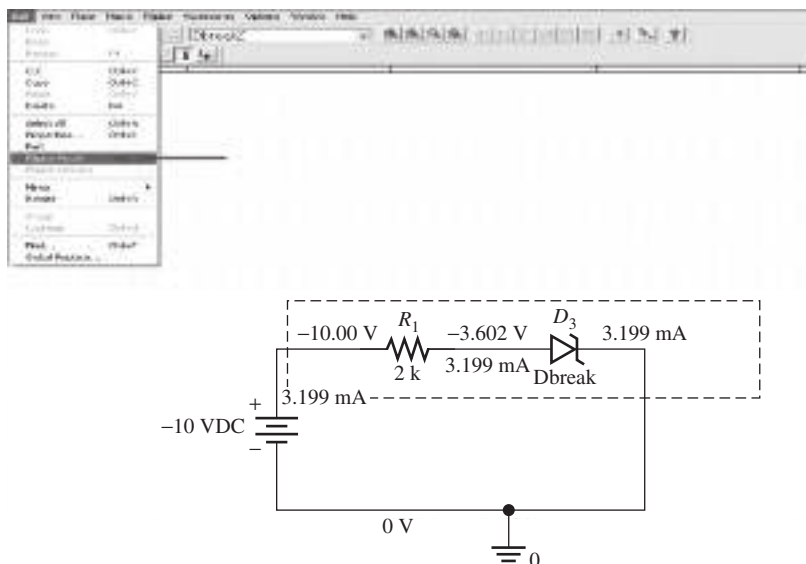

FIGURE 8.89 Enter the PSpice model editor for the Zener diode.
4. Click on the Zener diode or Dbreakz, and go to the menu “Edit” → “PSpice Model” (see the arrow) as shown in Figure 8.89.